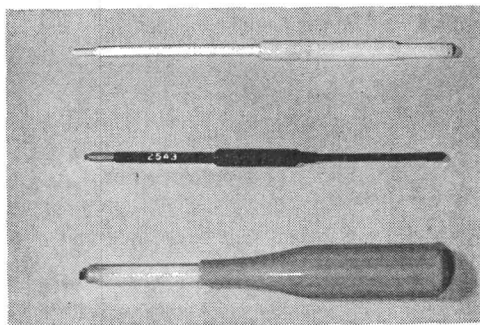

Fig. 7-1. Handtools necessary for calibrating the Type RM16 Oscilloscope.
8. Insulated alignment screwdrivers. See Fig. 7-1.